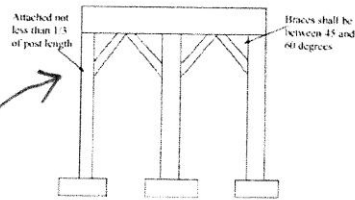

Figure AM109.1
▶ **AM109.1.2** 4x4 wood knee braces may be provided on each column in both directions. The knee braces shall attach to each post at a point not less than 1/3 of the post length from the top of the post, and the braces shall be angled between 45 degrees and 60 degrees from the horizontal. Knee braces shall be bolted to the post and the girder with one 5/8 inch hot dipped galvanized bolt with nut and washer at both ends of the brace per Figure AM109.1